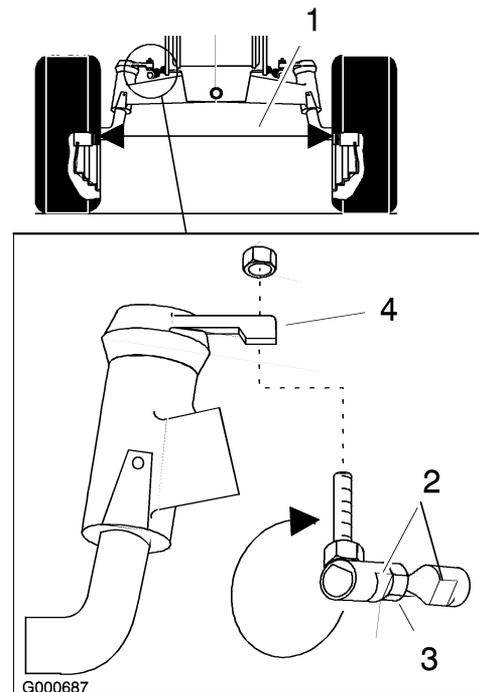

Figure 49
4. Measure, between the rims, at spindle level, in the front and rear of the wheels (Figure 49).
2. Remove ball joint from one steering lever (Figure 49).
4. Hold flats on ball joint to align with flats on tie rod and tighten jam nut (Figure 49).